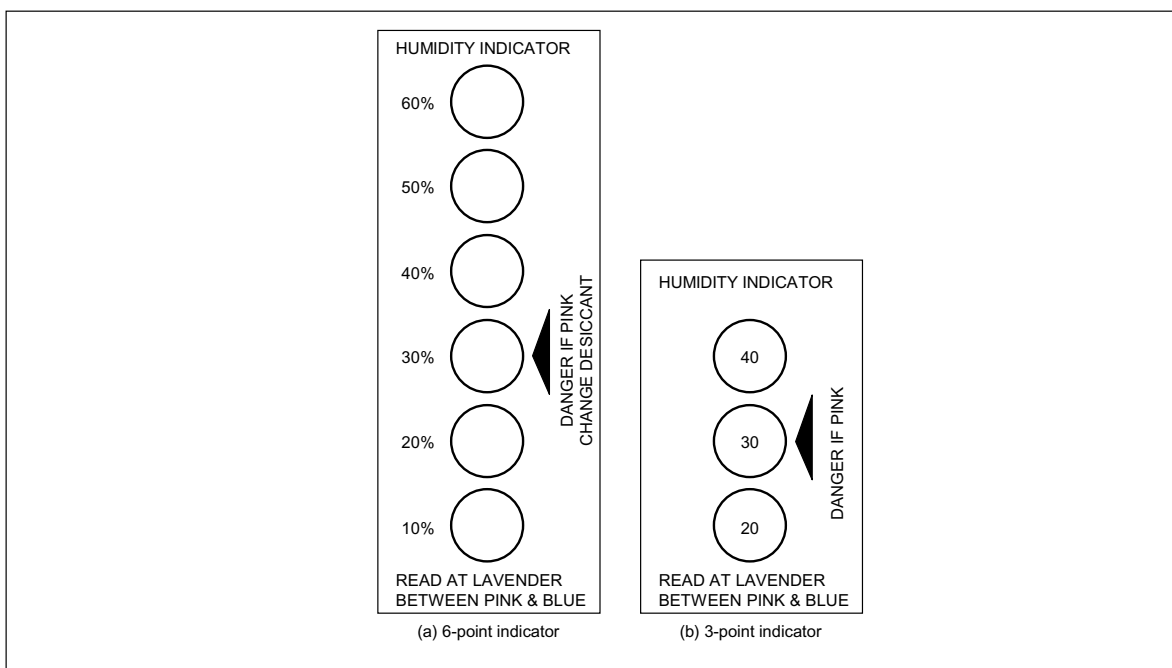

Figure 4.1 Humidity Indicator
- (3) Do not drop or toss device packing. The laminated aluminum material in it can be rendered ineffective by rough handling.
- (4) The storage area temperature should be kept within a temperature range of 5°C to 30°C, and relative humidity should be maintained at 90% (max). Use devices within 12 months of the date marked on the package seal.
- (5) If the 12-month storage period has expired, or if the 30% humidity indicator shown in Figure 4.1 is pink when the packing is opened, it may be advisable, depending on the device and packing type, to bake the devices at high temperature to remove any moisture. Please refer to the table below. After the pack has been opened, use the devices in a 5°C to 30°C, 60% RH environment and within the effective usage period listed on the moisture-proof package. If the effective usage period has expired, or if the packing has been stored in a high-humidity environment, bake the devices at high temperature.